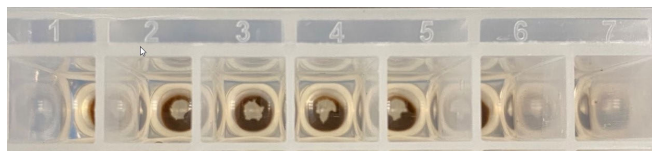

Figure 5 Beads form an irregular ring at the bottom of each sample well.
18. Incubate for 3 minutes at room temperature. Beads form an irregular ring at the bottom of each sample well. (Figure 5.)